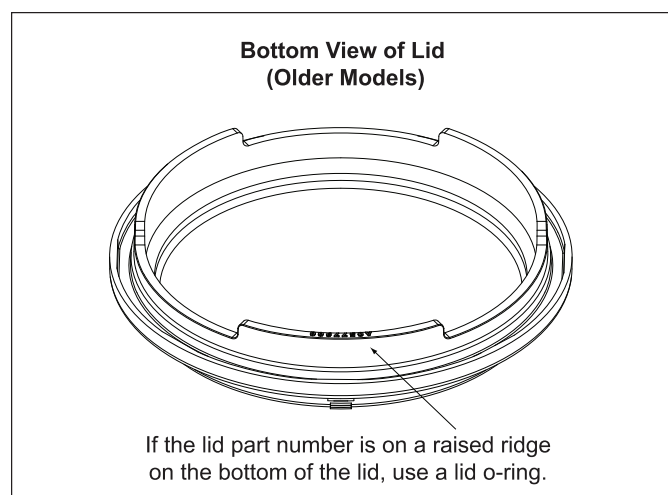

Figure 2. Older Model Uses Lid O-ring
- a. If the lid part number is on the bottom of the lid (see Figure 2), your pump lid is an older model and uses a lid o-ring. Go to step 2.